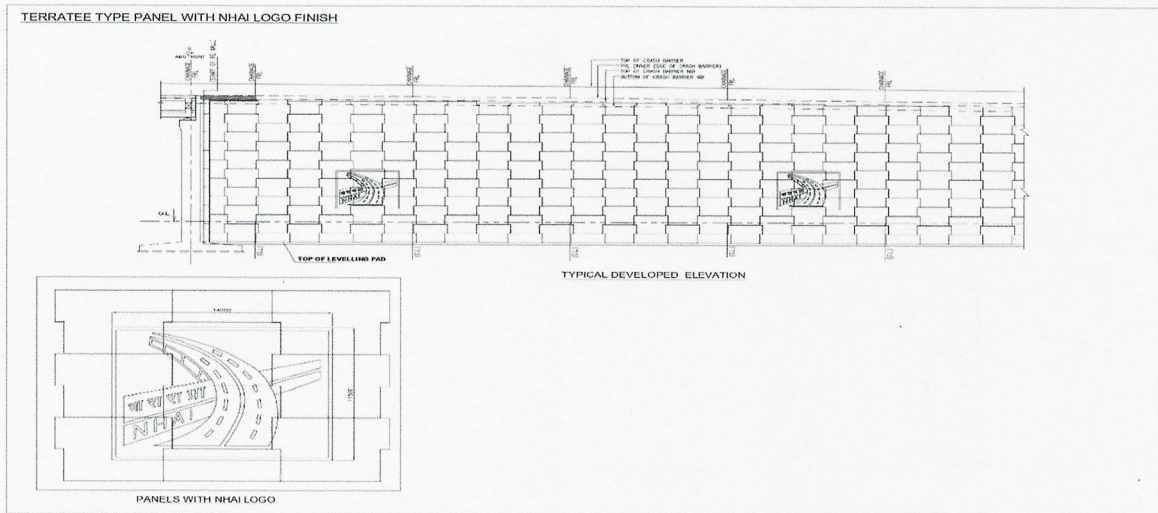

Figure-3
- (ii) In case of RE Panel with blocks, logo may be provided 2 m above OGL in one row horizontally at spacing of 12 m center to center from the logo as shown in **Figure-3**.